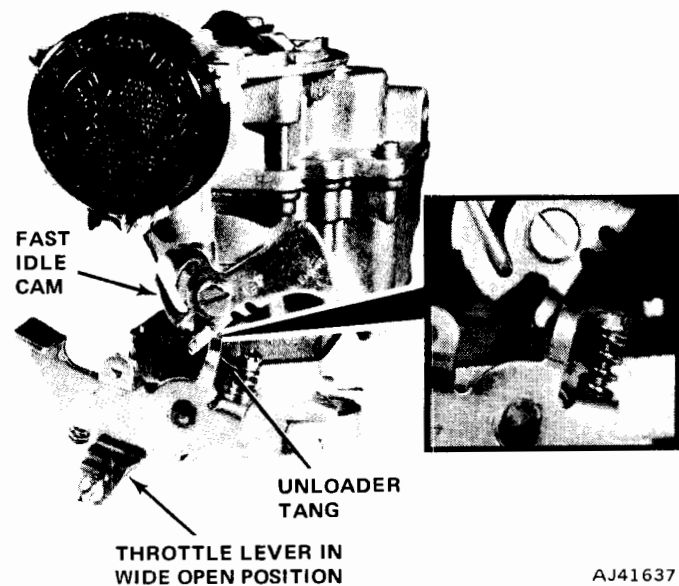

Fig. 4-31 Choke Unloader Adjustment
(3) Adjust by bending unloader tang which contacts the fast idle cam as shown in figure 4-31.